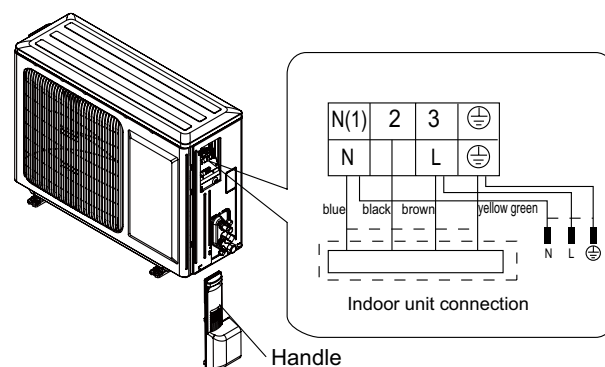

Fig.23
- (1) Remove the wire clip; connect the power connection wire to the wiring terminal according to the color; fix the power connection wire with screws.(As show in Fig.23)